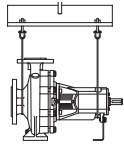
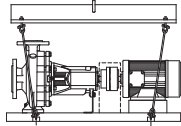

Fig. 1: Transporting the pump
Fig. 2: Transportation of the complete unit
- To avoid deformations, lift up the pump accordingly (fig. 1) or (fig. 2). The lifting lugs attached to the pump or motor must not be used to lift the entire unit. They are only meant for transporting the individual components during installation or dismantling.